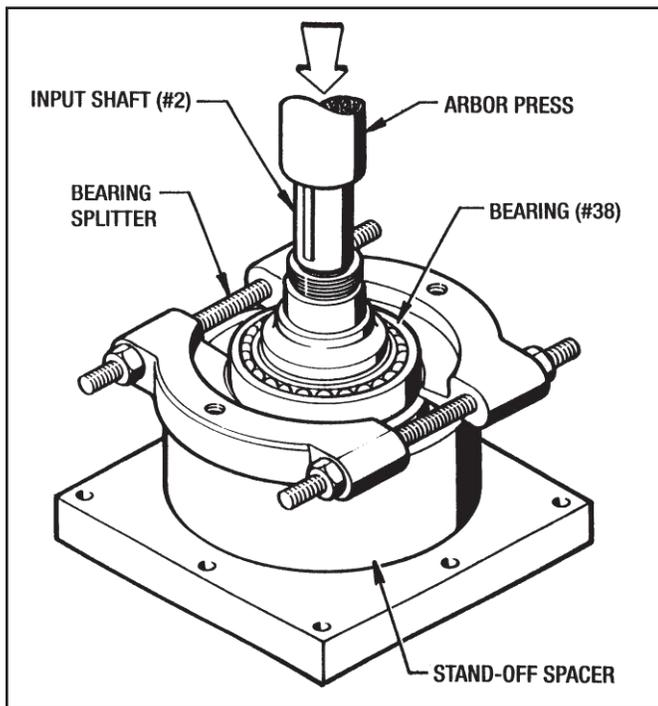

Figure 7.5- Removing Bearings From Input Shaft
2. Remove (6) Screws (#63) and remove the Bearing Retainer (#7) taking care not to damage the lip of the Oil Seal (#31).
8. Use a Bearing Splitter to remove Bearing (#38) from the Input Shaft. (See Figure 7.5)